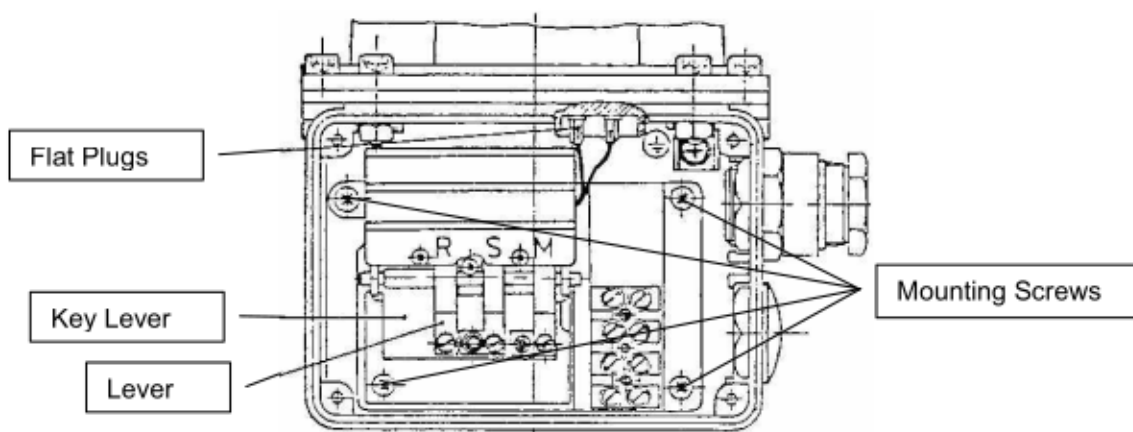

Figure 5: Terminal box
- Disconnect field wiring. Disconnect the flat plugs from the plug connector. See Figure 5.